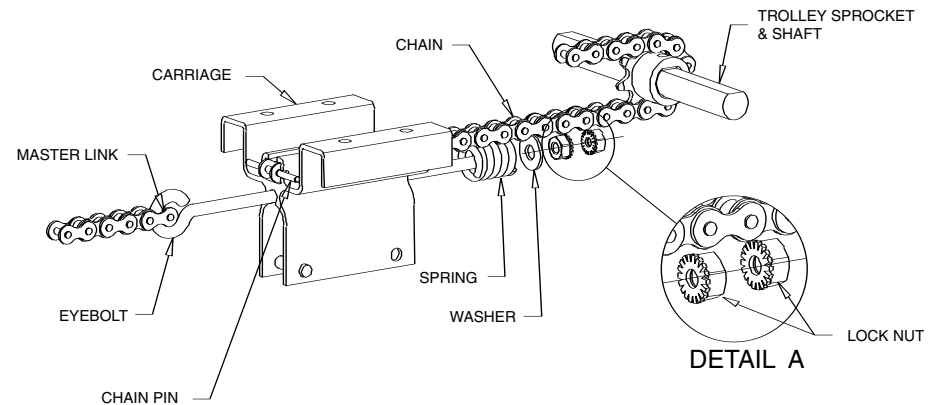

Figure 6
- 7) Uncoil the drawbar chain and install by routing the chain over the chain guides and around the drive sprocket on the output shaft as shown in **Fig. 6**.
- 15) Thread a single nut onto the eyebolt as shown in **Detail A, Fig 6**.
- 16) Tighten Chain with no more than 2" of sag and add second locknut. **Detail A, Fig 6**.